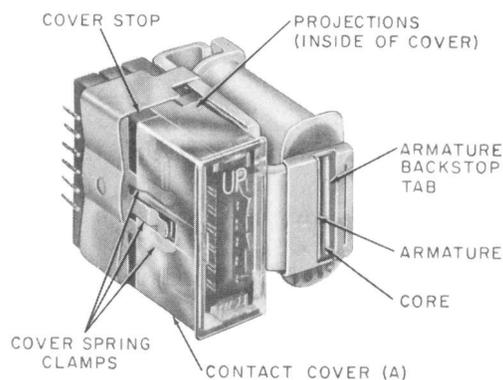

Fig. 1—6-Position Relay (BF, BG-, BL-Type)
**2.02 Contact Cover Tightness** [Fig. 1(A) or 2(A)]:—The contact cover shall be firmly held in place but shall be sufficiently loose to permit removal with the fingers.
**2.03 Contact Cover Clearance** [Fig. 1(A) or 2(A)]: With the contact cover positioned against its stops, there shall be clearance between the cover and adjacent moving parts.